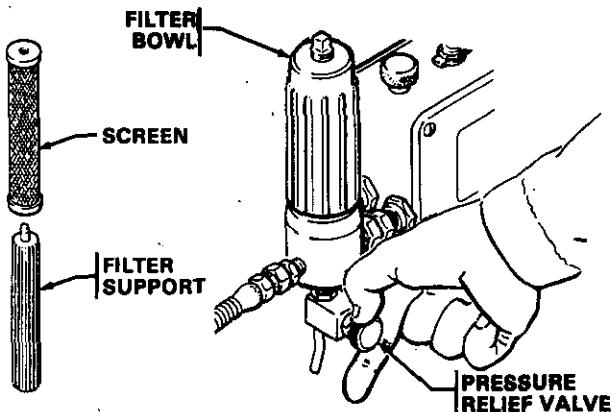

Fig 8
2. Remove the filter bowl and screen; see manual 307-273 supplied. Clean the screen separately and install the bowl without the screen to flush it. See Fig. 8.